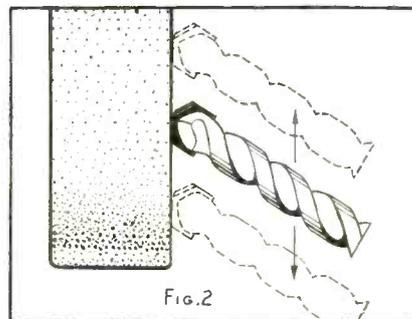

Fig. 2
2. Using moderate pressure, move the drill back and forth across the wheel to avoid overheating (*Fig. 2*). (If overheating should occur, do not drop the drill into liquids to cool.)